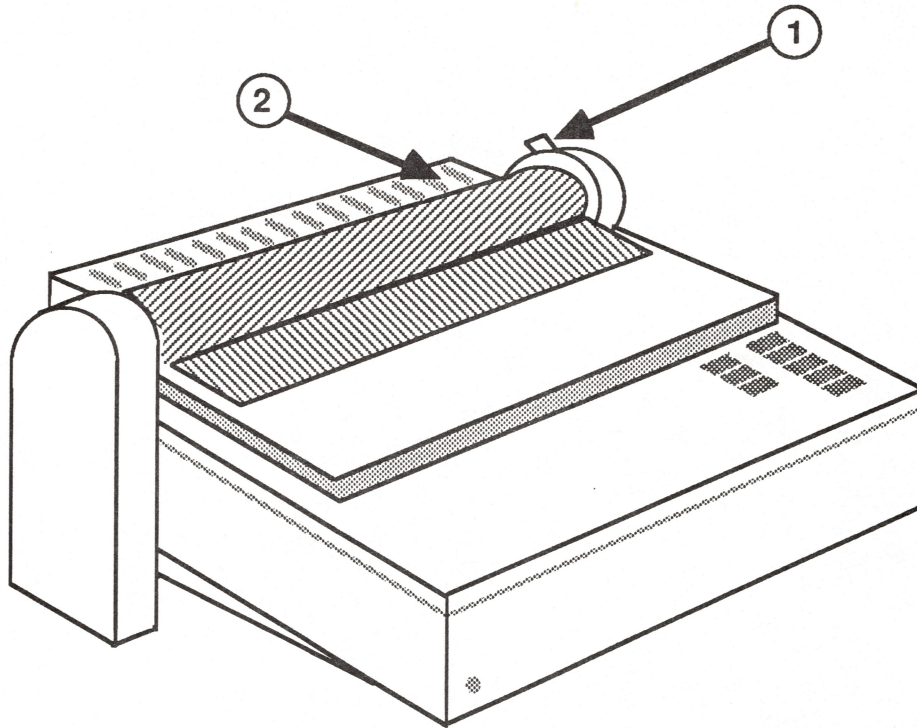

FIGURE 1
2. Pull the paper release lever forward (see Figure 1, #1).